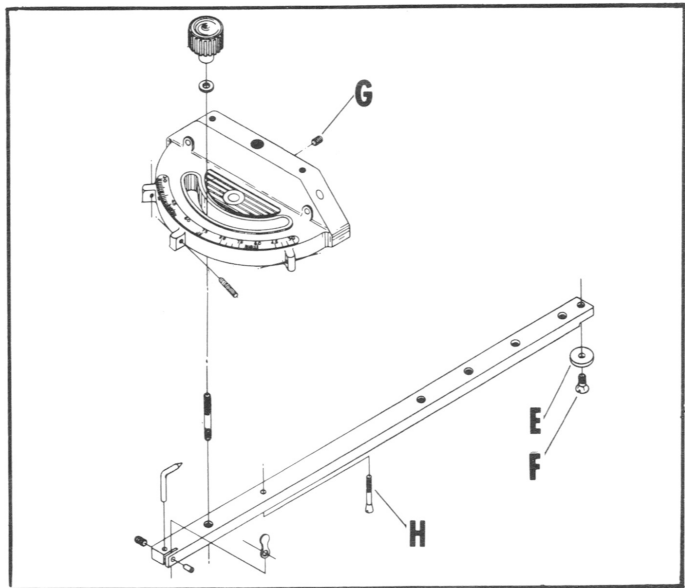

Fig. 29
Your Unisaw is equipped with T-slot miter gage slots and the special plate (E) and flat head screw (F) are to be assembled to the end of the miter gage bar, as shown in Fig. 29.
The head of the miter gage pivots on a special tapered screw that fastens the head of the miter gage to the bar. If the miter gage head does not pivot freely or after long usage pivots too freely, it can be adjusted by loosening set screw (G) Fig. 29, and turning the tapered screw (H) in or out. Be sure to tighten set screw (G) after adjustment is made.